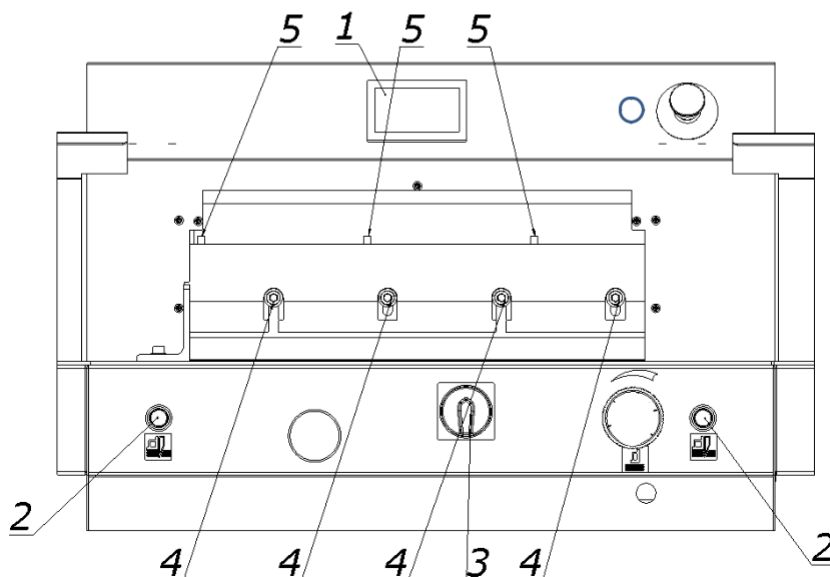

Figure 33
8.1.2.9 Pressing the push buttons 2  (Fig. 33) at the same time, start the cutting cycle. The knife will stop in the lower position.
8.1.2.10. Switch off the power supply of the electrical system by turning the main switch knob 3 (fig. 33) to the "0" position
8.1.2.12. Remove (loosen) the fixing screws 4 (fig.33) so that the knife falls under its own weight on the base bar with its entire length.
8.1.2.13. Tighten the adjustment screws 5 (fig. 33) as far as they will go, so that the blade of the knife is cut into the base bar, approx. 0.3 mm.
8.1.2.14. Tighten the fixing screws 4 (figure 33)
8.1.2.15. Switch on the power supply of the electrical system by turning the main switch knob 3 (fig. 33) to position "I".
8.1.2.16. Turn off the "knife change" function on the programmer 1 (fig.33)
8.1.2.18. Turn off the power supply of the electrical system by turning the main switch knob 3 (fig. 33) to the "0" position
8.1.2.20. Turn on the power supply of the electrical system by turning the knob of the main switch 3 (fig.33) to position "I"